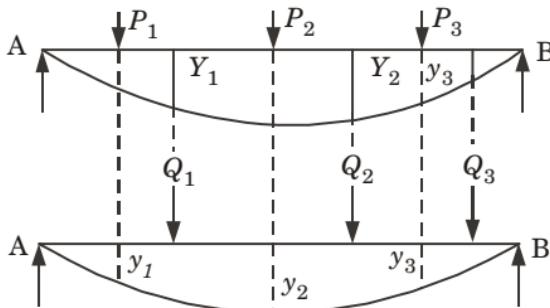

Fig. 17.
- Let a structure  $AB$  carries two system of forces  $P_1, P_2, P_3$ , and  $Q_1, Q_2, Q_3$ . Fig. 17 shows both the system of forces separately.